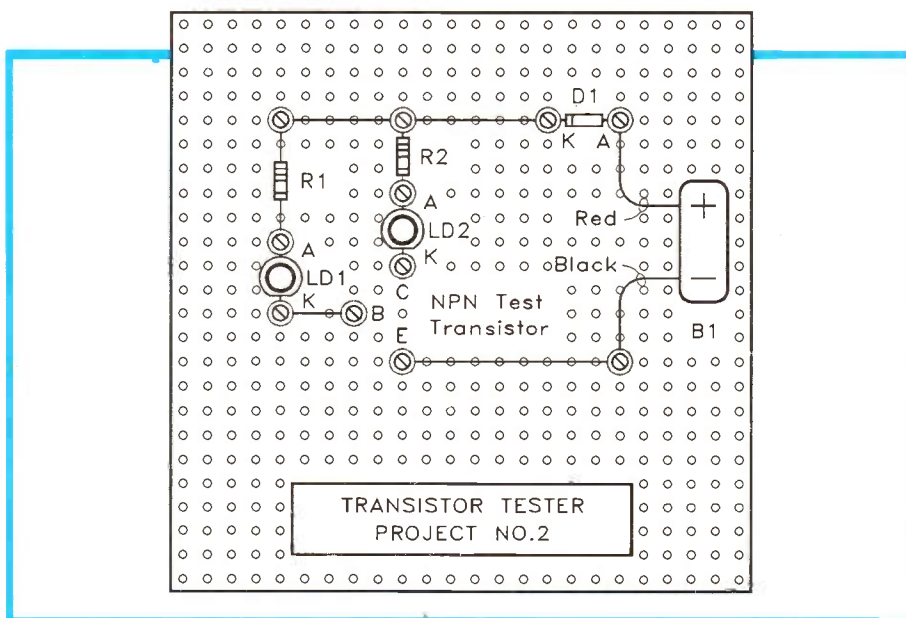

Figure 3. The component guide-sheet for the Transistor Tester.
1. Cut out the component guide-sheet provided with the kit (which is a full-size copy of Figure 3), and glue it to the top of the plastic board. Paper glue or gum should be okay. Do not soak the paper with glue, a few small 'dabs' will do.